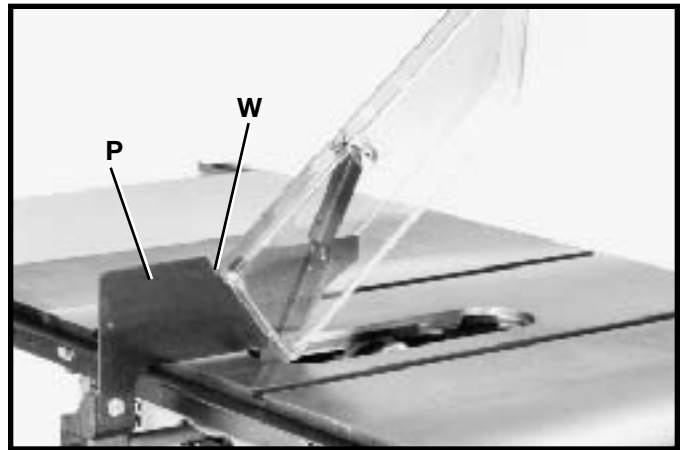

Fig. 33
10. **IMPORTANT:** The splitter (P) Fig. 33, features a notch (W) cut into the top edge. Simply raise the front of the clear blade guard (P) Fig. 33, until the rear edge of the guard slips into notch (W) of the splitter. This notch enables the blade guard to stay in the raised position and makes blade changing easier.